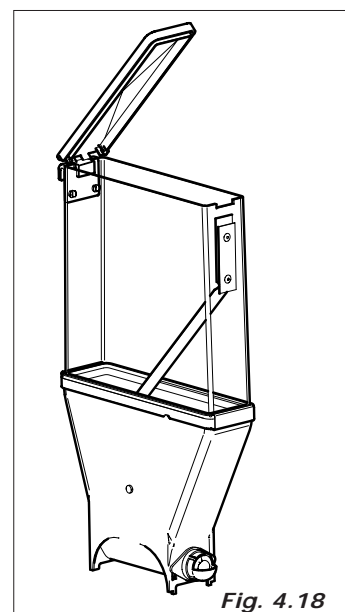

Fig. 4.18
- remove the lids from the product containers covers and product chutes (Fig.4.18). Dip all in the solution previously prepared
- remove all the powder chutes, water funnels, mixing bowls and whippers and silicone tubes and dip these parts also in the prepared solution (Fig.4.18)